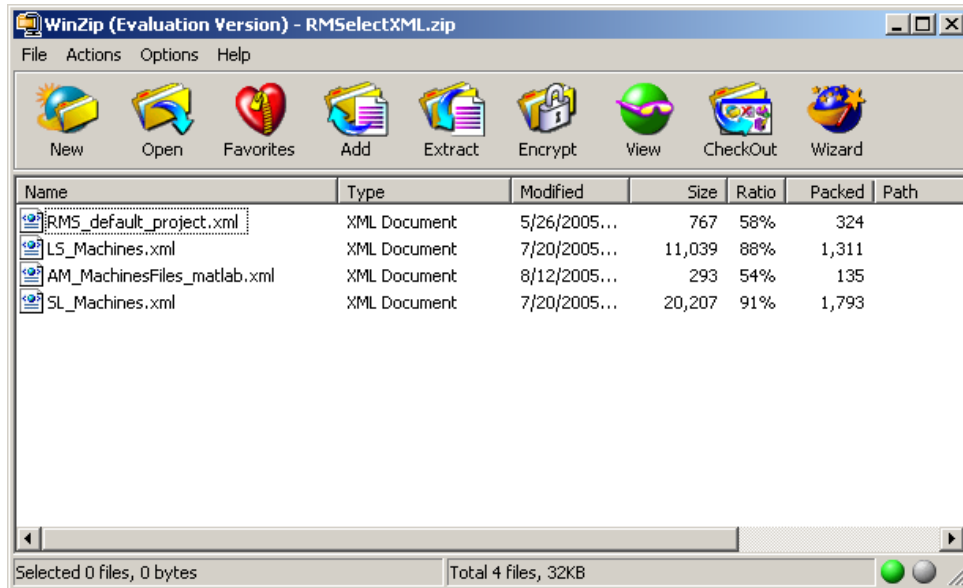

Figure 2.2 Extracting the XML files from the RMSelectXML.zip archive.
4. Some XML data files are required for RMSelect to execute correctly. These files are used to define RM machines and default projects for RMSelect. The XML files are delivered in one Zip file (RMSelectXML.zip). The installer automatically executes Zip on this file, but you must use the Windows extraction wizard (Windows XP) or a Zip application (Windows 2000, see Figure 2.2) to unzip these files. When the extraction wizard displays the folder containing XML files, simply click on the "Extract all files" link and ensure that the files are installed in the 'c:\Program Files\RMSelect' folder, not a sub-folder.